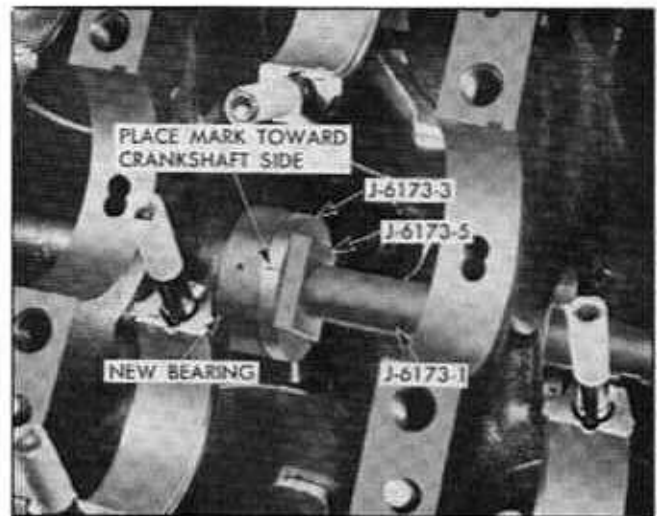

Fig. 6-72 Preparing to Install Bearing
5. Position Replacer Adapter J-6173-3, with bearing in position against shoulder, against rear of hole in which bearing is to be installed (Fig. 6-72). Index mark on shoulder of Replacer must point up (toward crankshaft side) to properly position bearing.
7. Slip key J-6173-5 into notches in shaft behind Replacer Adapter J-6173-3 and tighten nut to start bearing into hole (Fig. 6-72). Continue to tighten nut until bearing has been pulled completely into its hole. When properly positioned, it will be approximately flush with both sides of the transverse member. **NOTE:** Rear bearing should be pulled in until front edge is flush with block. This will leave shoulder at end of counterbore for camshaft rear plug visible behind bearing.